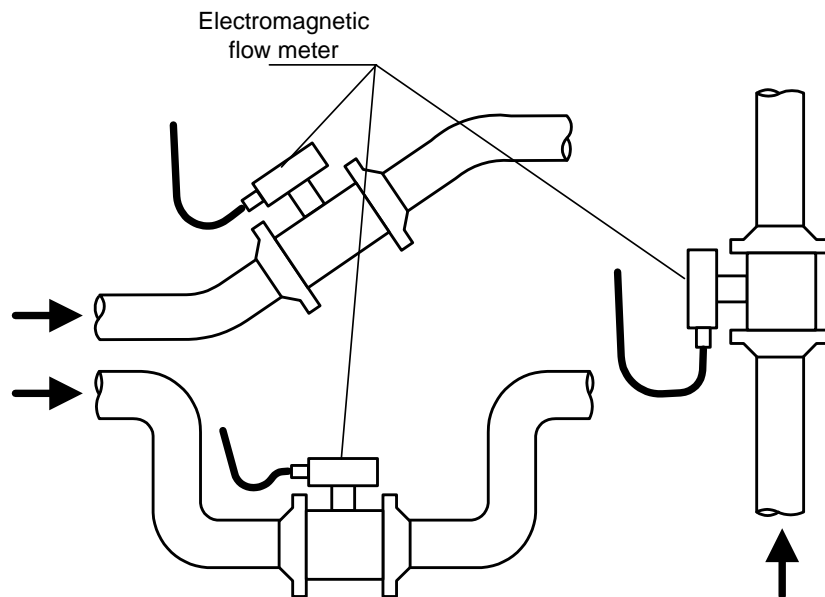

Fig.1. Recommended mounting locations
- To prevent air accumulation at the mounting location, the flow meter should not be placed at the upper point of the pipeline or in the open-ended pipeline; the best place to mount the flow meter (if applicable) is the lower or the uprising pipeline run (see Fig.1)